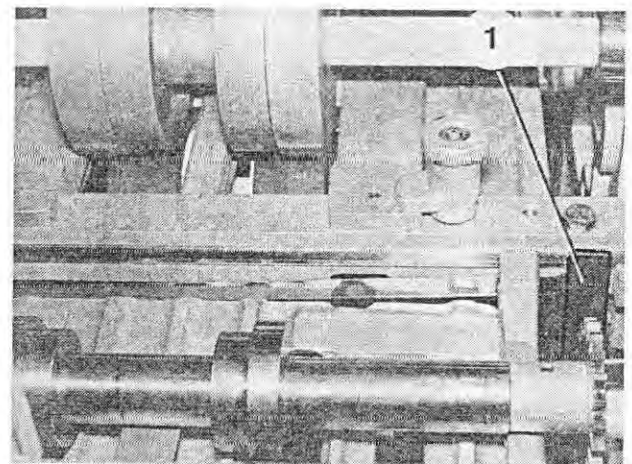

Fig. 88
1. Press the „Vent Brake” button and use the handwheel to crank the machine in the direction of the arrow until the movable cutter knife (Figure 88/1) has reached its upper position.